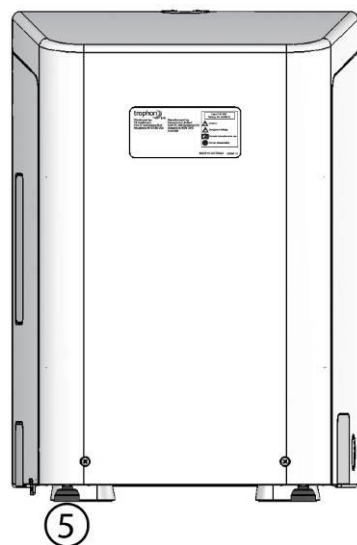

Figure 2
##### (Figure 2)
2. Level the device by adjusting the back feet – turning feet clockwise or anti-clockwise (see Figure 2). Ensure feet are present at all times, and are not loose.